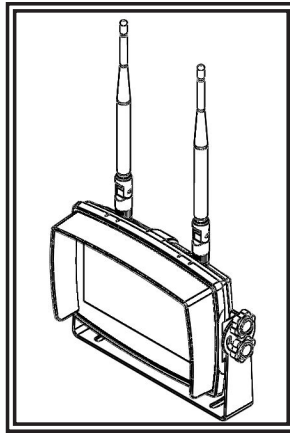

Figure 3
4. Attach the sun-visor as shown. Attach the antennas so they point upward as shown in Figure 3.